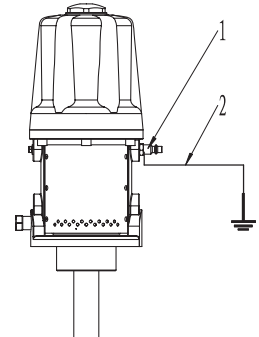

Fig.2: Grounding guide
- Pump: Refer to fig.2. Use a ground wire and clamp as shown in Fig. 2. Remove the ground screw 1, onto the pump and tighten securely. Connect the other end of the ground wire to a true earth ground. Insert through the eye of the ring terminal at end of the ground wire 2. Fasten the ground screw back.